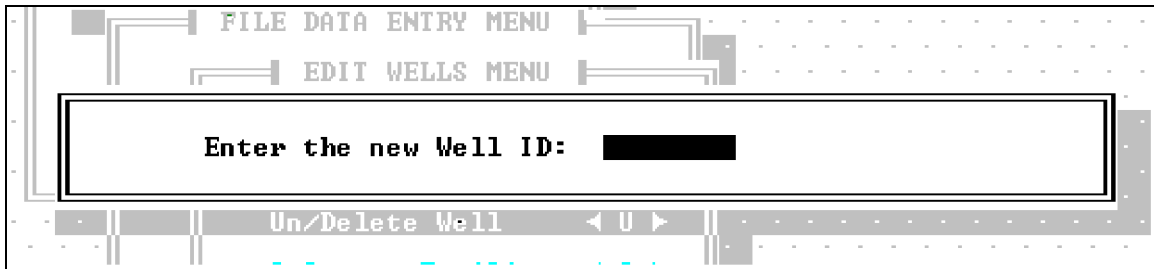

Figure 3-25. Prompt for new Well ID.
2. Press the <A> key or use the up and down arrow keys to highlight the Add a New Well option and press the <Enter> key. The prompt shown in Figure 3-25 appears on your screen.
Example: A new background well: MW-01 is to be added to the XYZ Landfill dataset. At the Enter the new Well ID prompt (Figure 3-25) type: